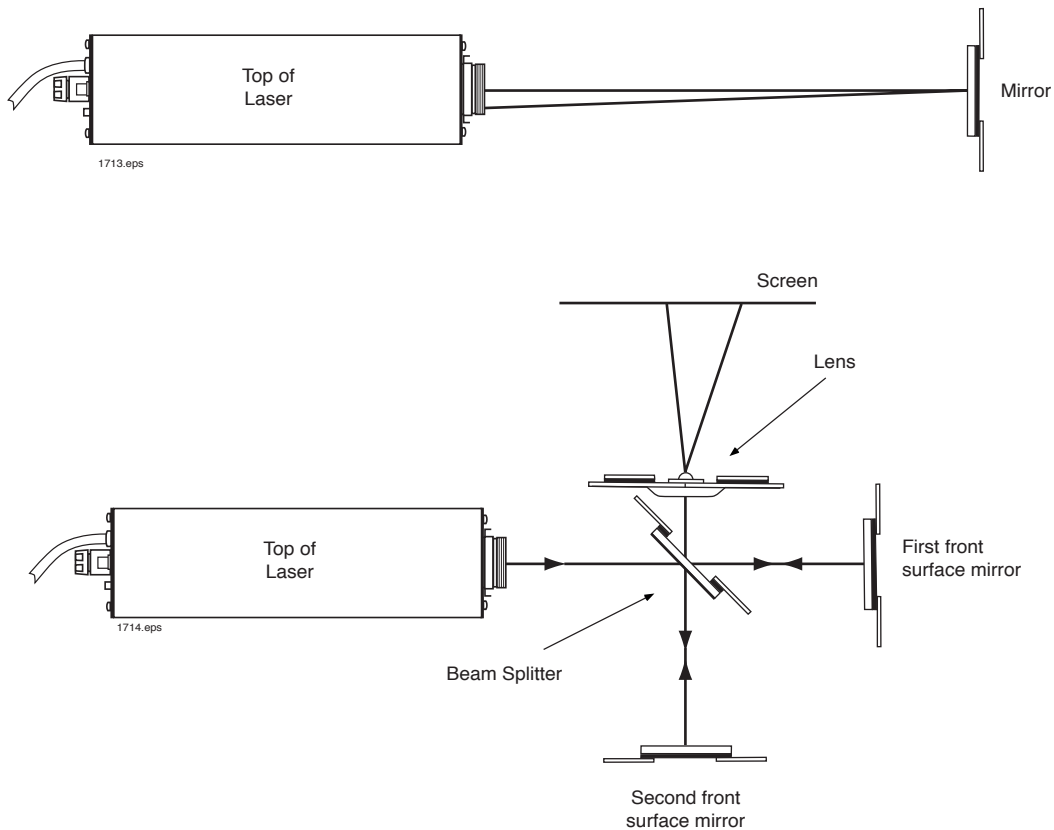

Figure 8. Constructing a Michelson's Interferometer in the sandbox.
3. Set the laser on one end of the centerline. Aim its beam directly above the centerline. Mount one of the small first surface mirrors on a U-shaped carrier and place it in the sand at the end of the centerline across from the laser. The laser and mirror should be placed as far apart as possible in order to accurately check the stability of the box. Adjust the mirror and carrier so the mirror reflects the beam back to the laser. Aim the reflected beam to a point just above the hole in the laser's aperture where the beam exits, as shown in Figure 8. The reflected beam should not re-enter the laser. It should strike the front of the laser just above the exit hole.